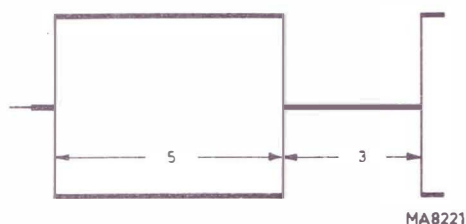

Fig. 29. Functioning of the blanking of the fly-back
- Determine the duty cycle:  $0.4 \pm 0.1$  (Fig. 29)
- The oscilloscope must show the picture illustrated in Fig. 29.